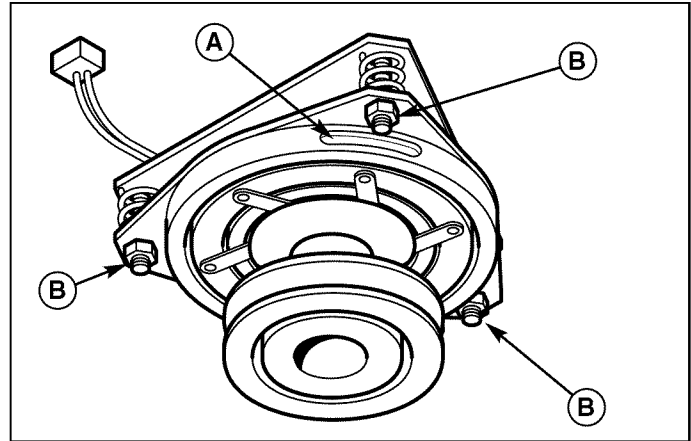

Figure 48. PTO Clutch Adjustment
2. See Figure 48. Note the position of the 3 adjustment windows (A) in the side of the brake plate and the nylock adjustment nuts (B).
4. Alternately tighten the adjustment nuts (B, Figure 48) until the rotor face and armature face just contacts the gauge.